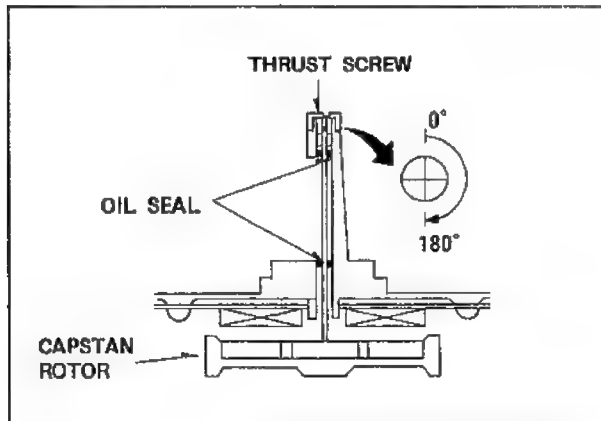

Fig.M30
3. Set the 2 Oil Seal to edge of the Capstan Housing as show in Fig.M30.